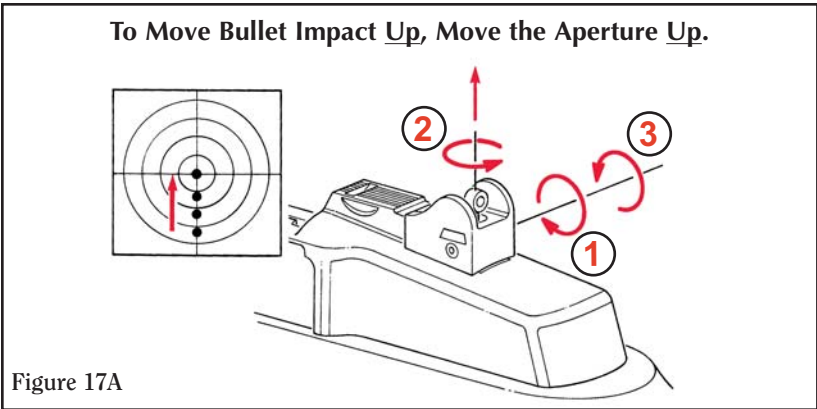

Figure 17A
2. Adjust the aperture by rotating it in half turn increments. Rotating the aperture clockwise will move the aperture down (and therefore the point of impact down as well). Rotating the aperture counter-clockwise will move the aperture up (and therefore the point of impact up). (See Figures 17A and 17B.) Rotating the aperture a single half turn (180 degrees) will move the point of impact approximately 1.25 inches at 100 yards.
3. Tighten the Combination Windage Adjustment and Locking Screw that was loosened in Step One (See Figures 17A and 17B). The Aperture will move against the other screw and will be aligned to the half turn position.